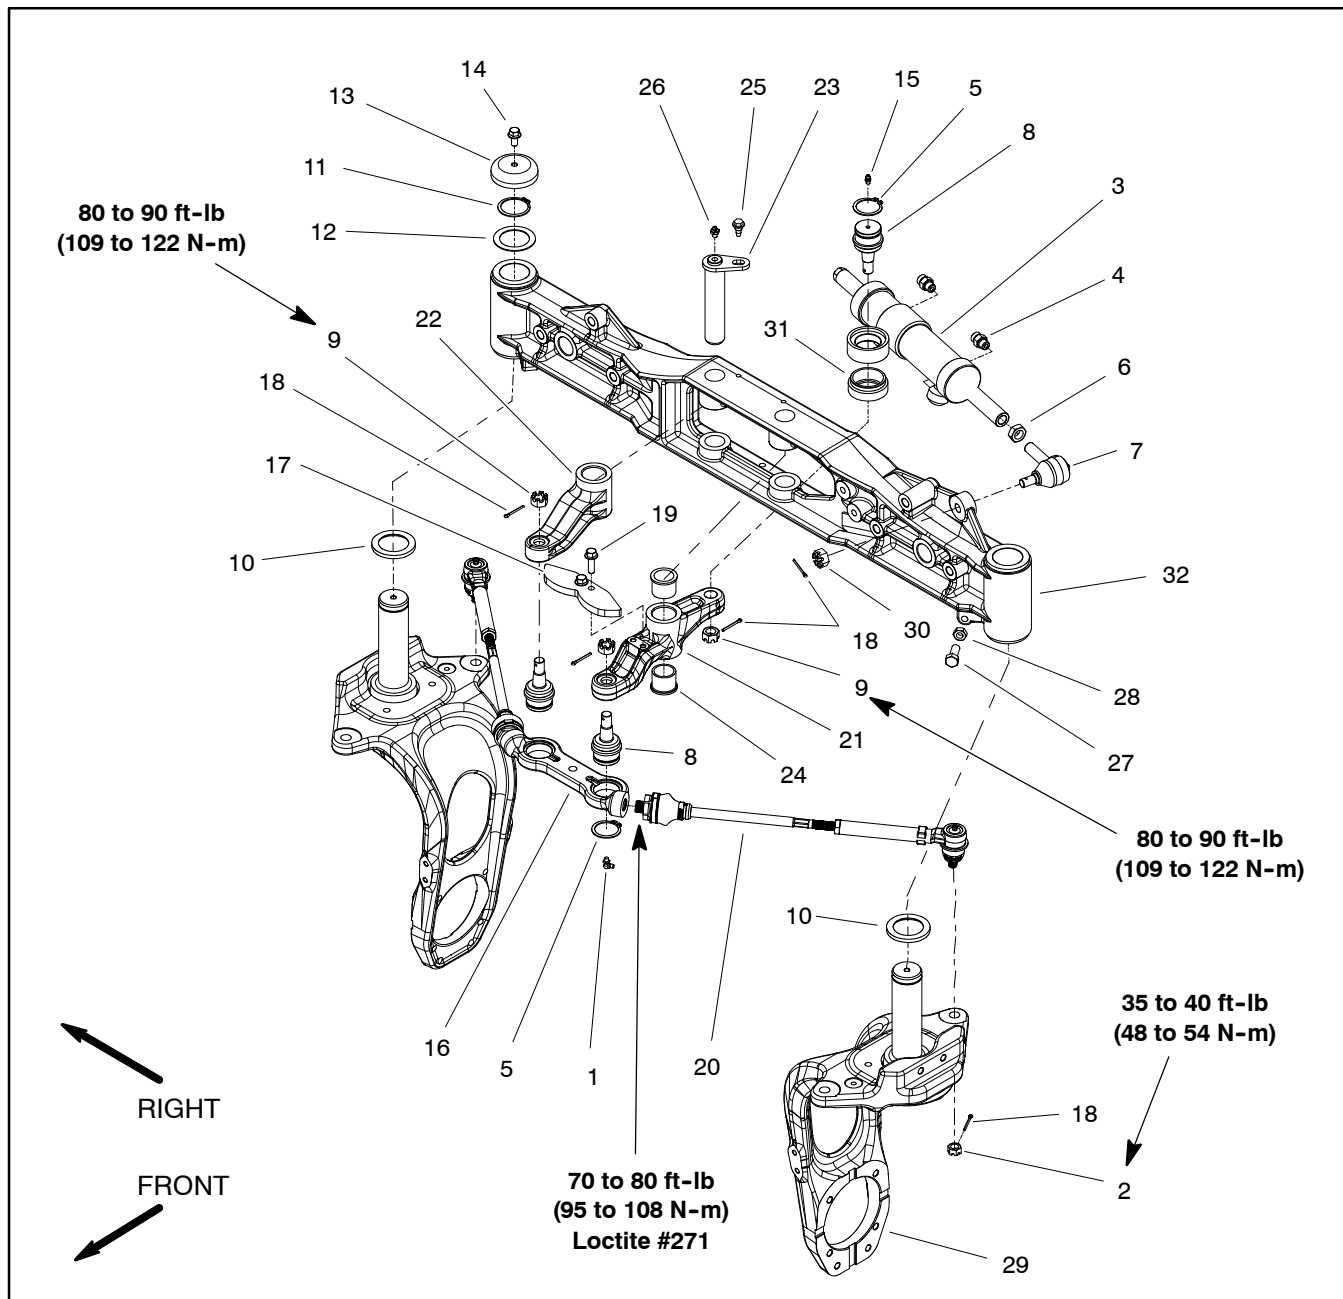
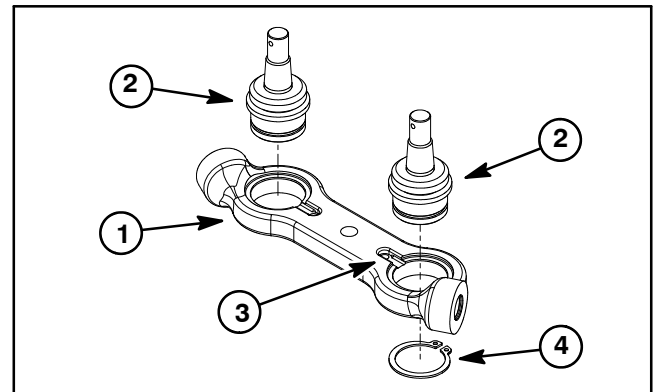

Figure 31
Figure 33
### Disassembly (Fig. 31)
7. To remove tie rod (item 20) from machine:
8. Remove additional rear steering components as necessary using Figure 31 as a guide.
9. If bushings in the rear axle (item 32), rear axle LH arm (item 21) or rear axle RH arm (item 22) are worn or damaged, replace bushings (see Steering Assembly Bushing Service in this section).
### Assembly (Fig. 31)
1. Install all removed rear steering components using Figure 31 as a guide. Note torque specifications identified in Figure 31 during assembly. If ball joints were removed from center link (item 16), press new ball joints into center link from the side of the link that has a notch at ball joint bore (Fig. 33).